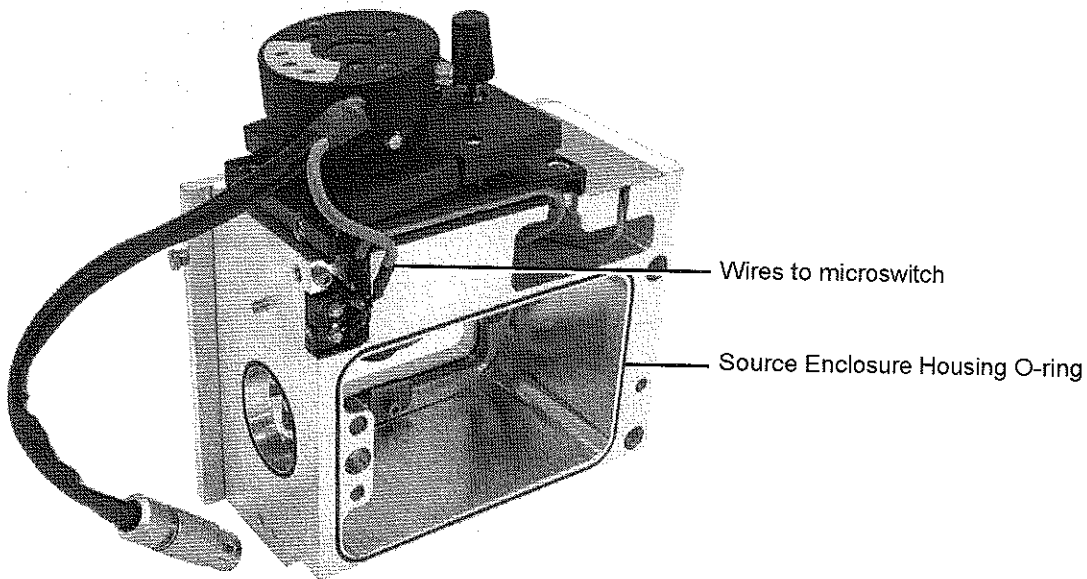

Figure 7-2 Source Enclosure Rear View
26. Ensuring that the wires to the microswitch do not become trapped between the source enclosure and the pumping block (see Figure 7-2), fit the source enclosure to the pumping block.